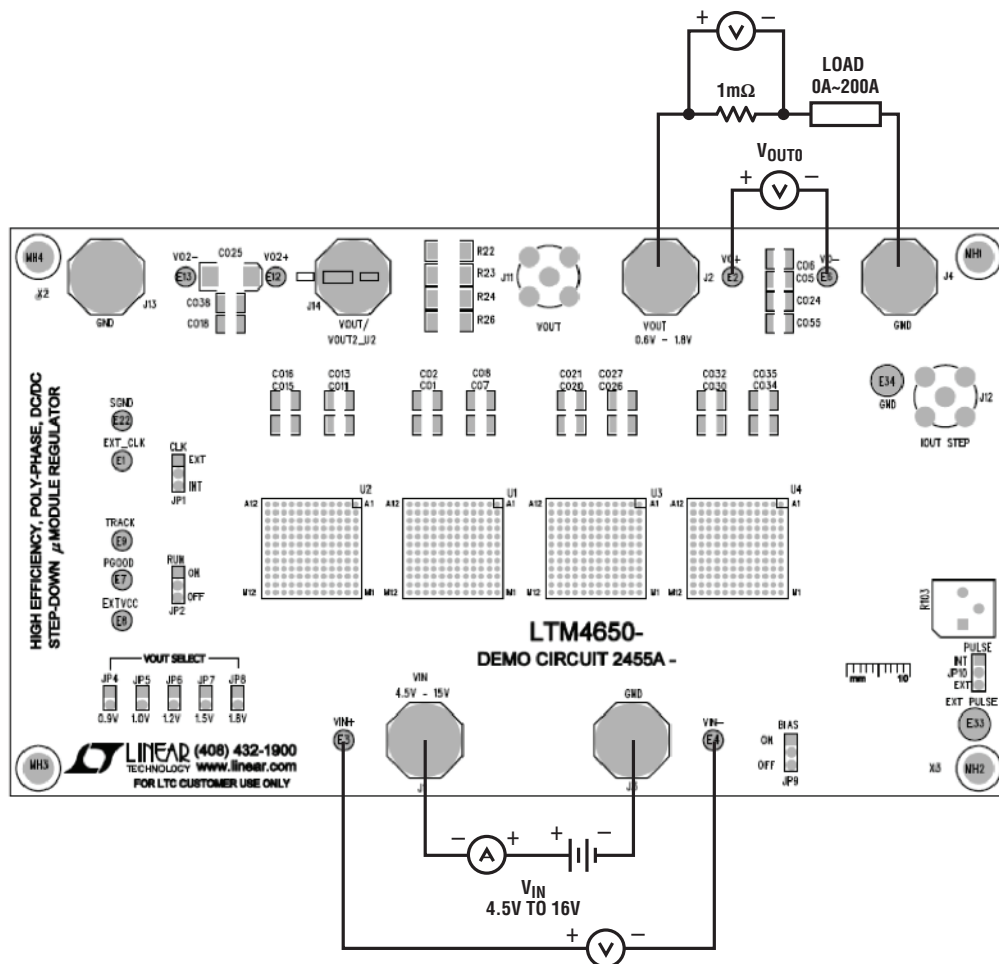

Figure 2. Test Setup of DC2455A-C
Demonstration circuit DC2455A-C is easy to set up to evaluate the performance of PolyPhase operation of the LTM4650EY-1. Due to the high input/output current, user should select the proper input supply/load/cable which can sustain the full load operation. It's recommended to pull load current from J2 and J4. The load current pulled from J5 and J6 shouldn't exceed 25A. Please refer to Figure 2 for proper measurement setup and follow the procedure below:
- With power off, connect the input power supply, load and meters as shown in Figure 2. Preset the load to 0A and  $V_{IN}$  supply to 12V.